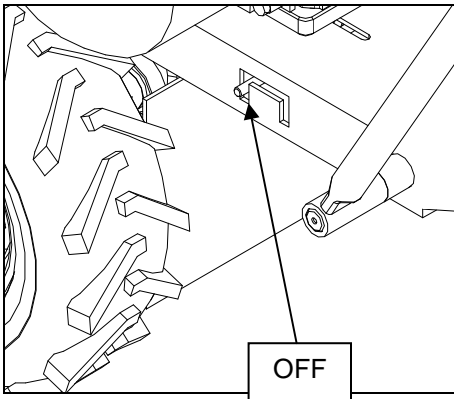

Fig. 5
- bring the lever of the clutch differential in the OFF position, as shown in Fig. 5.